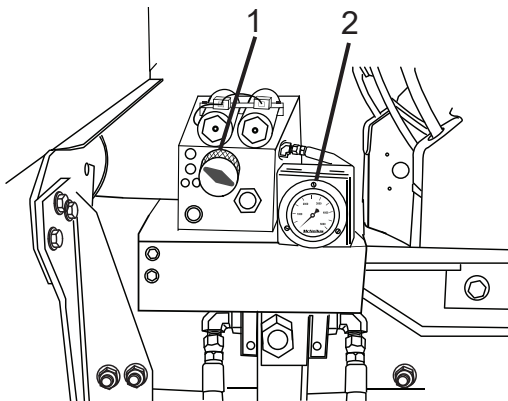

Figure 58
3. Turn the PRV knob (Figure 58, Item 1) all the way counterclockwise to minimize the pressure applied
to the Bridgemaster axle when the drum is empty. Pressure will be displayed on the gauge (Figure 58, Item 2).